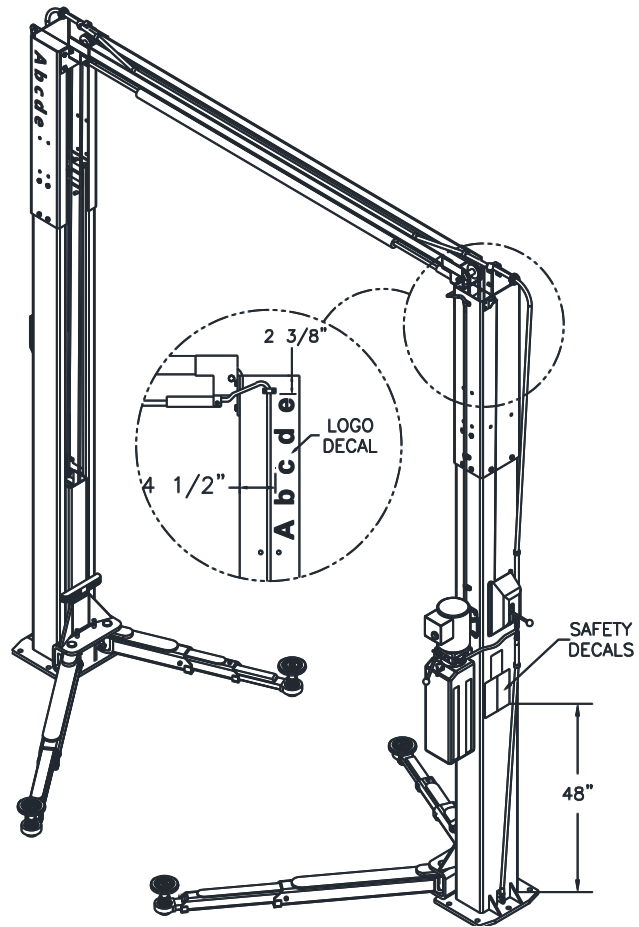

Fig. 13 – Safety & Logo Decal Placement
- 46) Apply the Safety Decals (Pg. 3) 48" above the base plate on the power column and the Logo Decal 48" above the base plate on the idler column. **Fig. 13.**